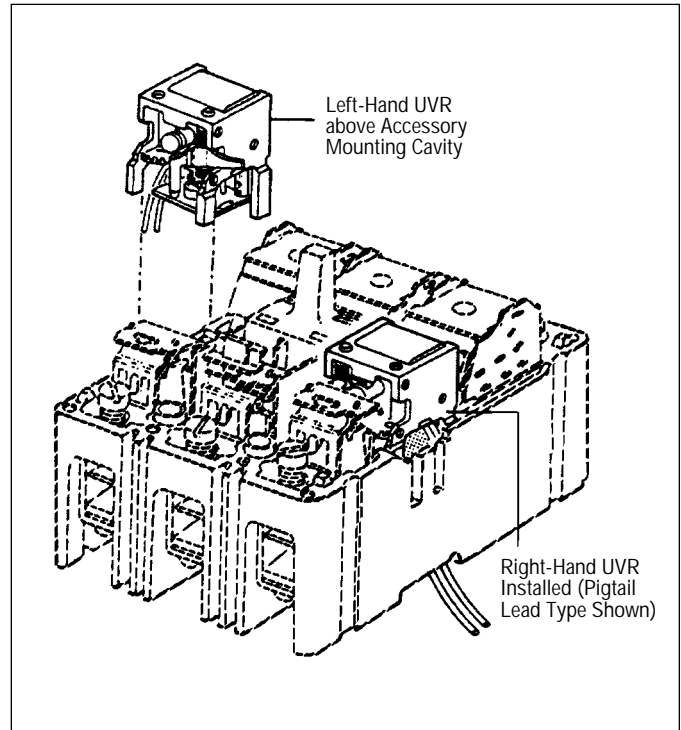

Figure 2-3 UVR Installation Positions
- 2-6.1. Insert UVR as described in the following steps (see Figure 2-3):
2-6.2. Insert UVR as described in the following steps (see Figure 2-3):